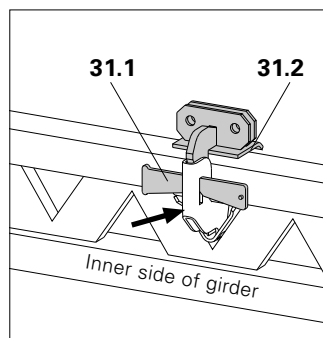

Fig. B2.05.1
1. Centre the wedge (31.1) and pull clamps apart (31.2). (Fig. B2.05.1)